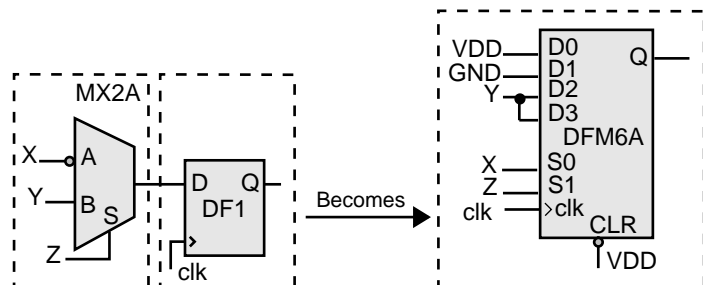

Figure 3-5. Logic Reduced to One Sequential Module
3. It combines the new combinational macro from step 2 with the basic sequential macro from step 1. For example, “MX2A” and “DF1” are combined into a D type flip-flop with 4 input multiplexed data, active low clear, and active high clock “DFM6A.” The total number of logic modules is further decreased to one sequential module, shown in Figure 3-5.